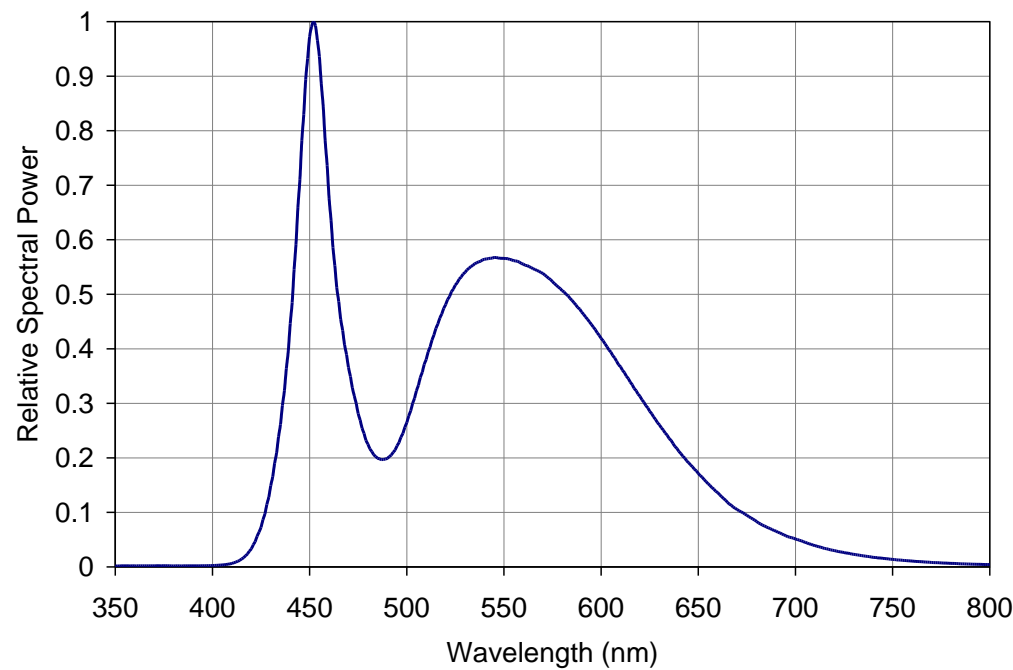

Figure 5: Relative spectral power vs. wavelength @ T_C = 25°C
- Solder conditions per JEDEC 020D. See Reflow Soldering Profile Figure 5.